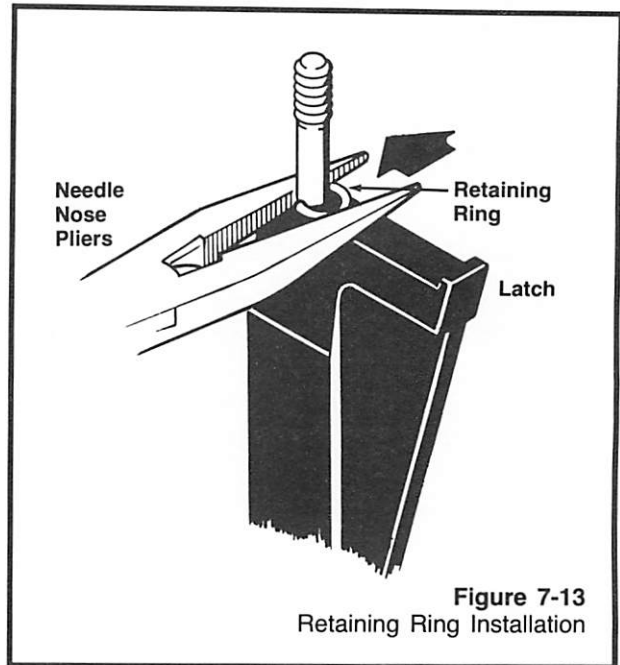

Figure 7-13
(Figures 7-13 and 7-14)
2. Use a needle nose pliers and carefully force the retaining ring onto the smooth portion of the latch shaft. (Figure 7-13).